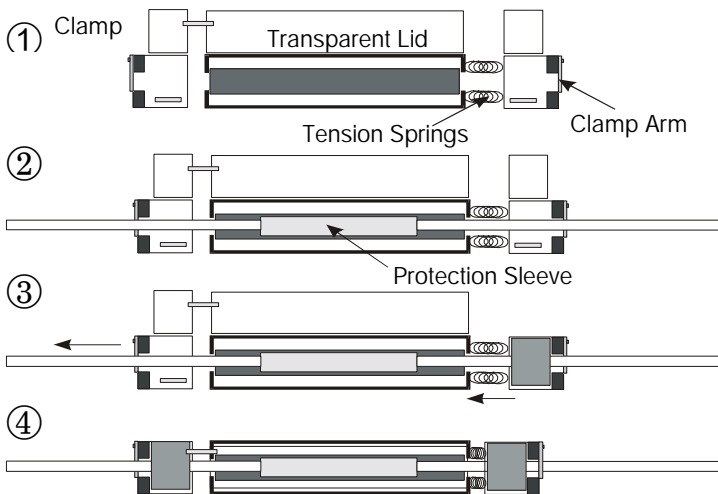

Figure 23. Applying Maintaining Tension
5. The right side clamp has a built-in spring mechanism used to keep the fiber taut inside the fiber protection sleeve during the shrinking process. Referring to Figure 23, open the left heater clamp and pull the fiber to the left to activate the tension spring and close.